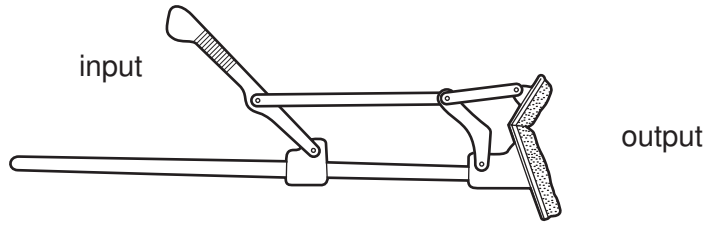

Fig. 9
(g) Fig. 9 shows a floor mop linkage.
- (i) Add arrows to Fig. 9 to show the movement of the input and the output. [2]
- (ii) Add labels to Fig. 9 to show **one** fixed pivot and **one** moving pivot. [2]